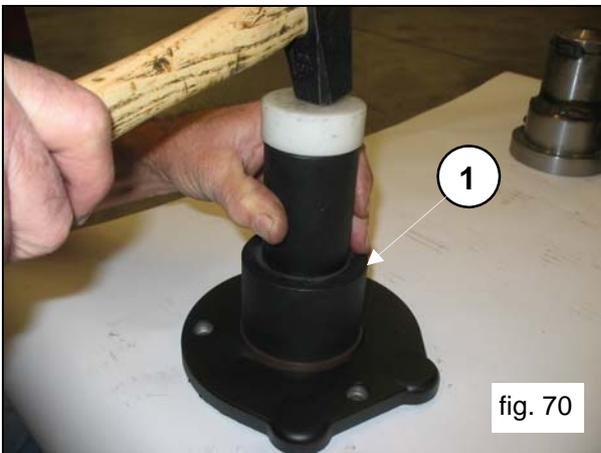
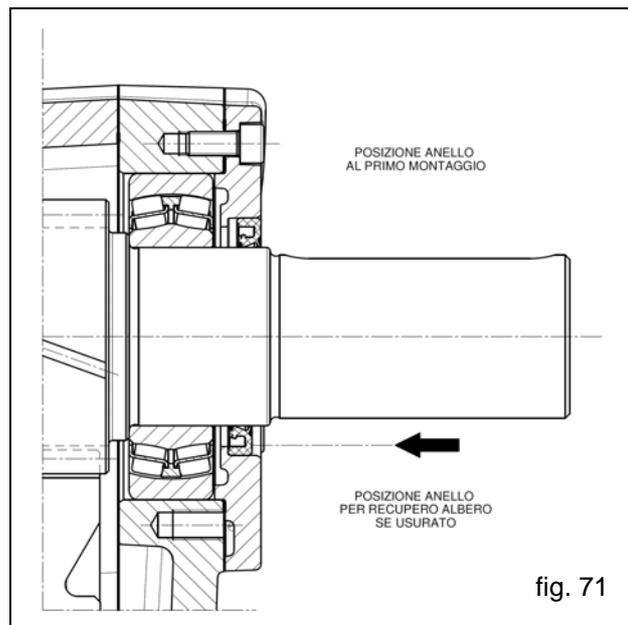

fig. 70
fig. 71
Insert the oil seal inside the reducer flange using the tools cod.27515900 and 27548200 (pos. ①, fig.70). Before proceeding with oil seal assembly, verify the conditions of the sealing lip. If replacement is necessary, position the new ring as indicated in fig.71.
**If the shaft presents diameter wear corresponding to the sealing lip, to avoid the need for grinding it's possible to position the ring as indicated in fig. 71.**